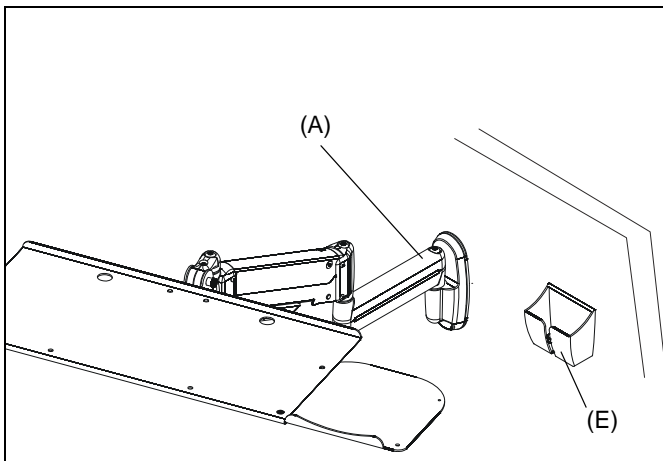

Figure 5
1. Remove adhesive backing from mouse holder (E).
2. Place mouse holder (E) on wall at desired location. (See Figure 5)